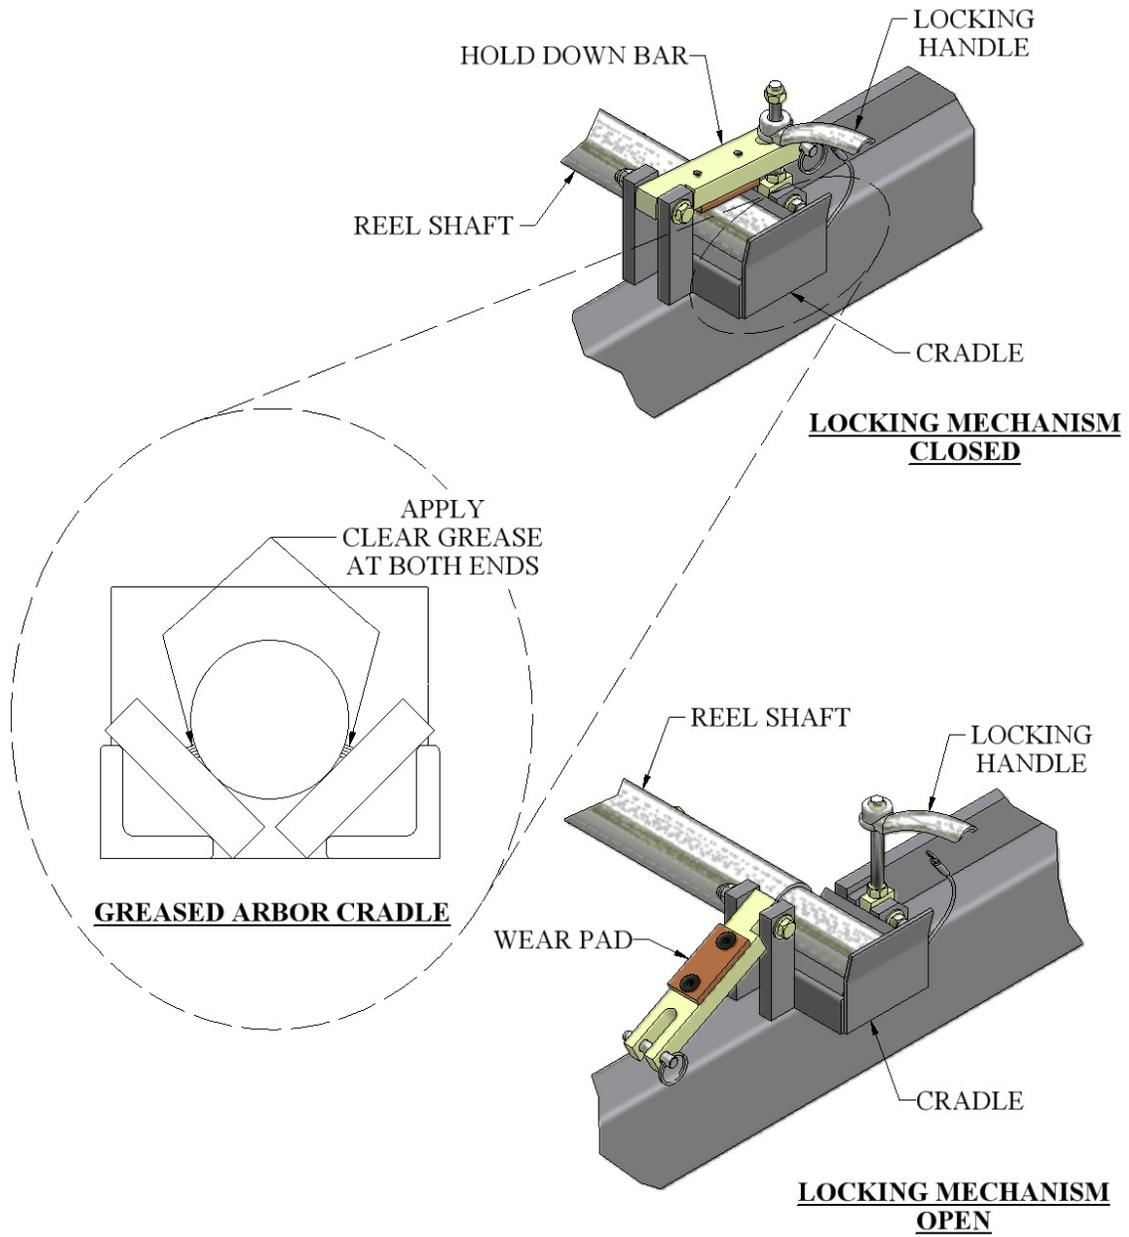

Figure 11: Expandable Reel Assembly
1. The reel shafts must rest in the cradles on the reel rack. Keep the cradles lubricated with synthetic lube to minimize wear. (Figure 11)
2. Use the Hold Down Bars on each cradle to secure the coil and reel to the reel stand during both operation and transit of the machine. The Hold Down Bracket should be used to keep the coil from uncoiling too fast during the fabrication of panels. Apply just enough drag to keep coil tensioned. (Figure 11)
1. Prepare the reel stand by making sure the Hold Down Bars are in the unlocked and open Position (Figure 11).
3. Rotate the Hold Down Bars (Figure 11) to the closed position and thread the handle onto the hold down bolt. If material will be run from this coil, tighten the left and right handle just snug. Final adjustment of tension should be made while running a panel to keep reel from unwinding material too fast. As the coil becomes smaller, re-adjustment will need to be made.